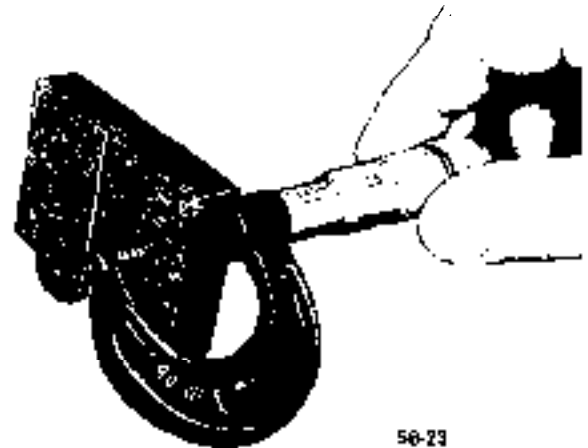

Figure 5B-23 Checking Brake Friction Pad Thickness
2. Using a one-inch micrometer, measure the thickness of the pad and friction plate. See Figure 5B-23.